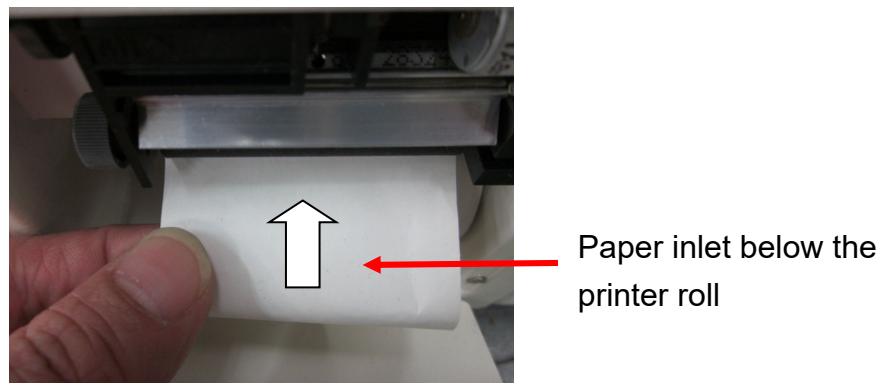
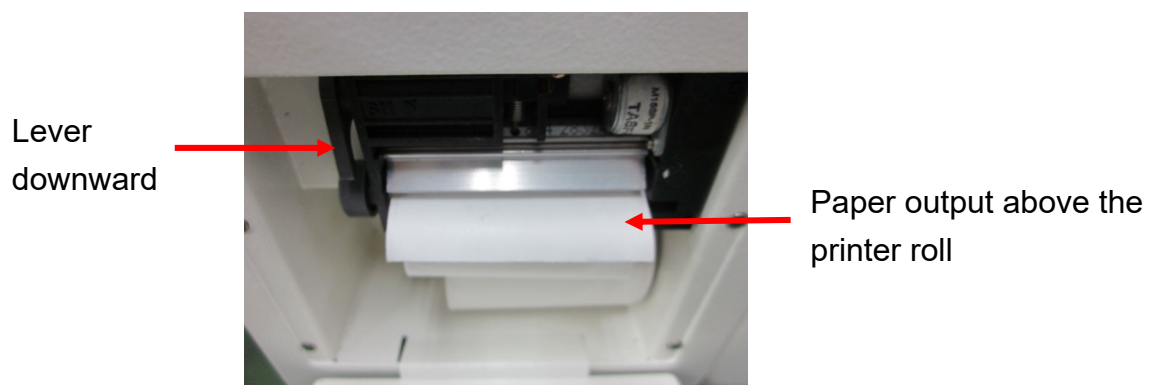

Figure 157
Figure 158
- D. Replace with a new one thermal paper in the compartment, and position the lever in the “downward position” as shown in Figure 158. Locate the thermal paper near to the sensing inlet (Figure 157), the thermal paper will be detected and then fed automatically (See Figure 158)